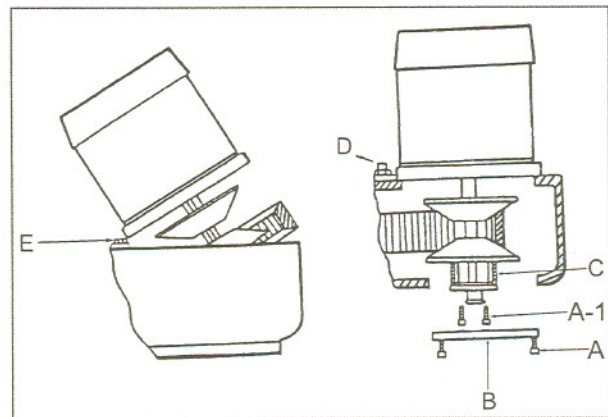

Fig. 15
3. Remove three screws (A, Fig. 15) and plate (B, Fig. 15).
4. Use two screws (A-1, Fig. 15) to compress the spring (C, Fig. 15).
7. Remove the four screws (D, Fig. 15).
8. Lift and tilt the motor so that it rests on stud (E, Fig. 15).